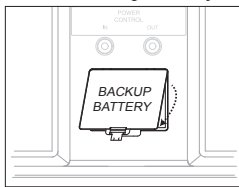

Figure 2
1. Press the tab and lift up on the Backup Battery Cover and temporarily place it aside. Refer to figure 2.
2. Press the tab and lift up on the Backup Battery Cover and temporarily place it aside. Refer to figure 2.